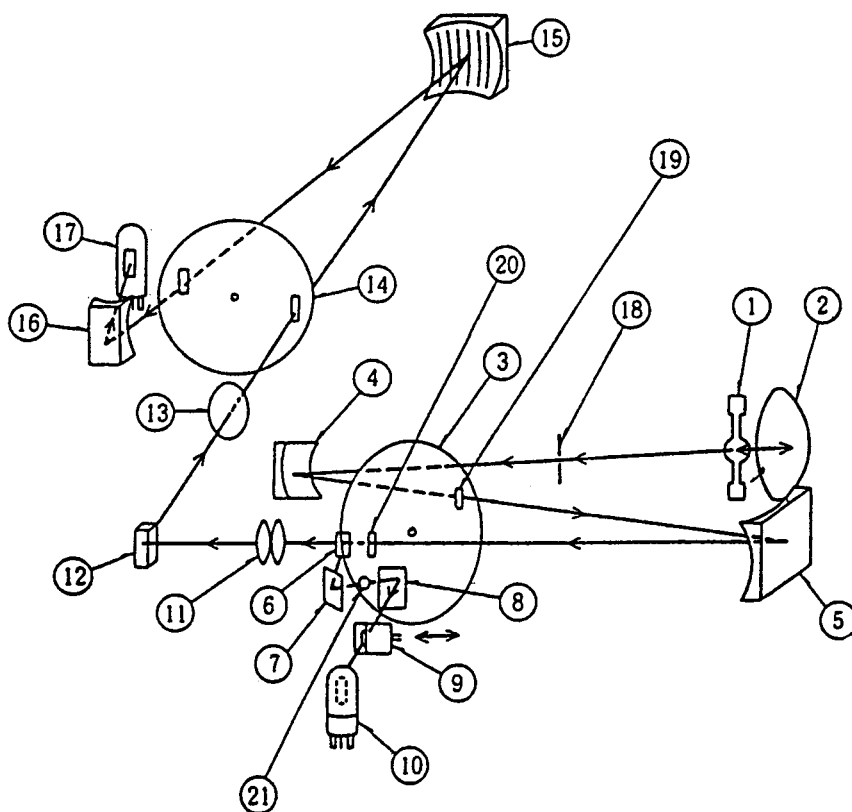

Fig. 11.2 Optical System of RF-5301PC
The optical system of the RF-5301PC instrument is illustrated in Fig. 11.2. A 150 W Xenon lamp (1) serves as the light source. The uniquely designed lamp housing contains generated ozone in it and decomposes the ozone by means of the heat produced by the lamp. The bright spot on the Xenon lamp is magnified and converged by the ellipsoidal mirror (2) and then further converged on the inlet slit of the slit Assy. (excitation side) (3) by the concave mirror (4). A portion of the light isolated by the concave grating (5) passes through the outlet slit, travels through the condenser lens (11) and illuminates the sample cell. (The concave grating in both the monochromators is a highly-efficient ion-blazed holographic grating, a product of Shimadzu's unique optics technology.) To achieve light-source compensation, a portion of the excitation light is reflected by the beam splitter quartz plate (6) and directed to the Teflon reflector plate 1 (7). The diffusely reflected light from the reflector plate 1 (7) then passes through the aperture for light quantity balancing (21) and illuminates the Teflon reflector plate 2 (8). Reflected by the reflector plate 2 (8), the diffuse light is attenuated to a specific ratio by the optical attenuator (9) and then reaches the photomultiplier for monitoring (10). The fluorescence occurring on the cell is directed through the lens (13) to the emission monochromator that comprises the slit Assy. (14) and the concave grating (15). Then, the isolated light is introduced through the concave mirror (16) into the photomultiplier for photometry (17) and the resultant electrical signal is fed to the preamplifier.
- ① Xenon lamp, 150 W
- ② Ellipsoidal mirror, SiO₂-coated
- ③ Slit Assy., excitation side
- ④ Concave mirror
- ⑤ Concave grating (for excitation)
- ⑥ Beam splitter quartz plate
- ⑦ Teflon reflector plate 1
- ⑧ Teflon reflector plate 2
- ⑨ Optical attenuator
- ⑩ Photomultiplier for monitoring, R212-14